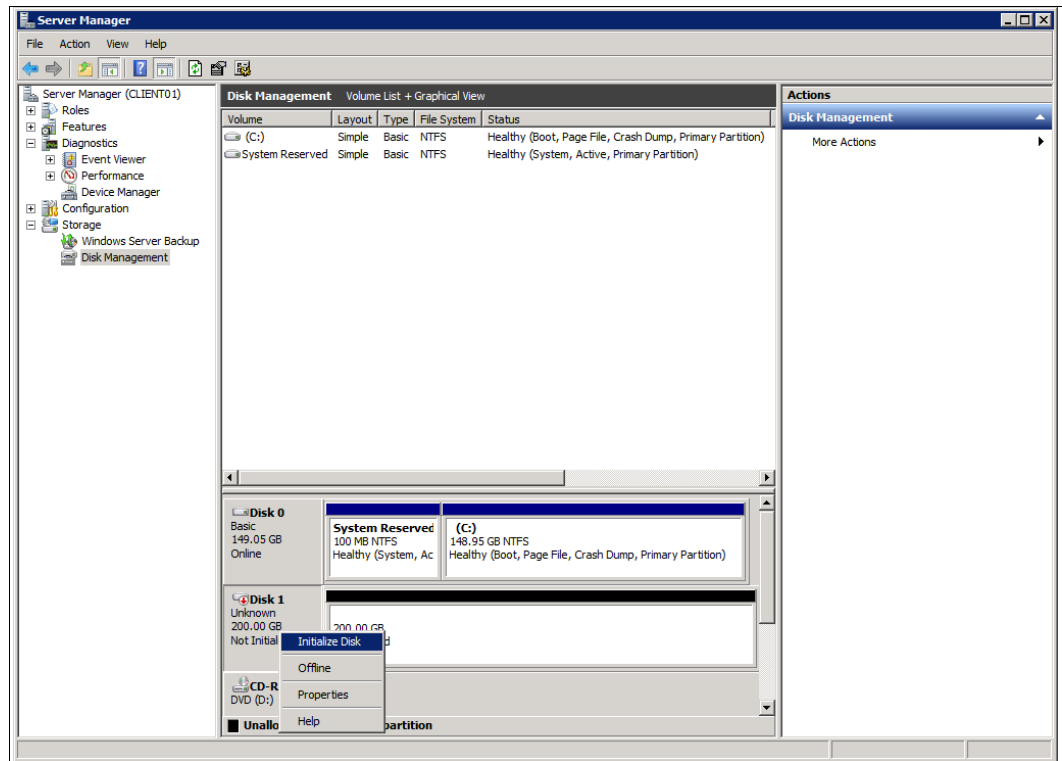

Figure 16-17 Initialize Disk
2. Initialize the disk by right-clicking Disk1 and selecting **Initialize Disk**, as shown in Figure 16-17.